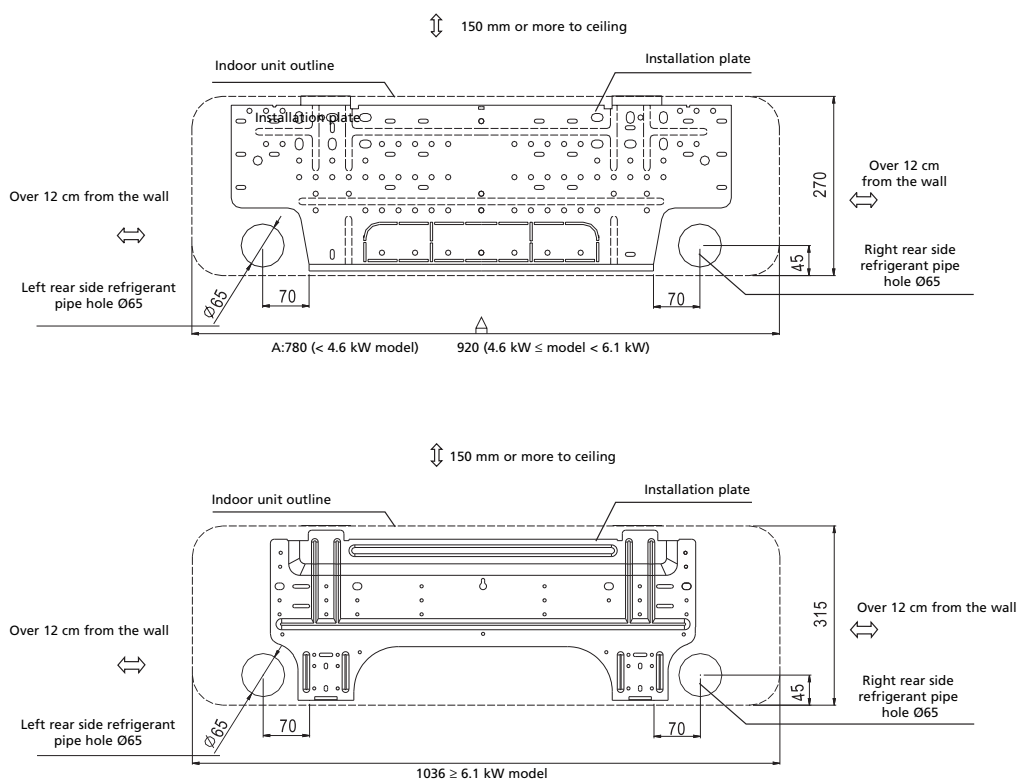

Fig. 5
1. Determine hole positions according to the diagram detailed in Fig.5. drill one (1) hole ( 65mm) slanting slightly downwards to outdoor side, this will prevent water to come indoors.